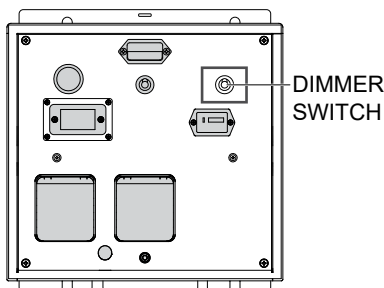

Figure 20. Dimming the Lamps
1. Toggle the dimmer switch to change the brightness of the lamps (Figure 20).